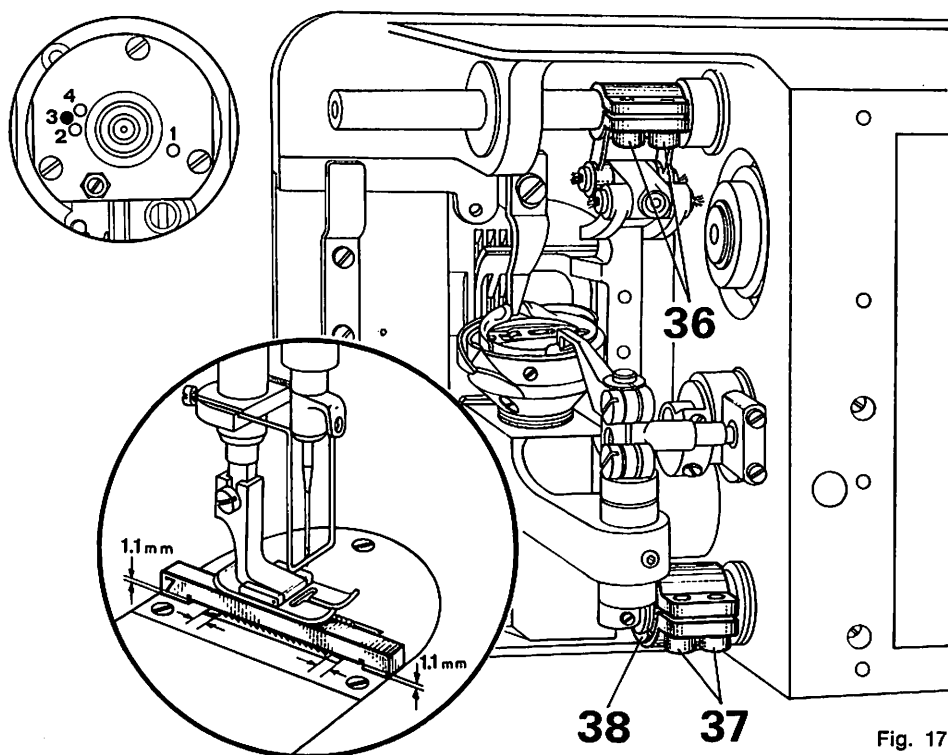

Fig. 17
14. Adjusting the Feed Dog (Fig. 17)